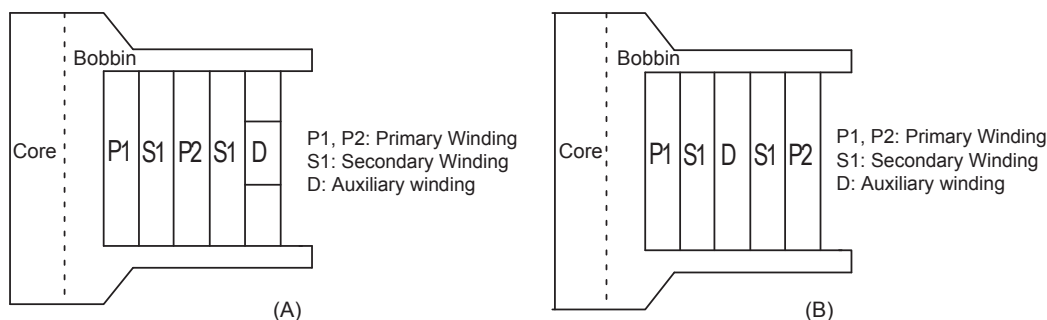

Figure 23. Transformer winding structures: (A) auxiliary winding apart from the primary windings, and (B) auxiliary winding within secondary winding
- Separate the auxiliary winding D from the primary windings P1 and P2 (figure 23(A)); P1 and P2 are two separated primary windings.
- Place the auxiliary winding D within the secondary winding S1 in order to improve the coupling of those windings (figure 23(B)); S1 is the secondary output winding.